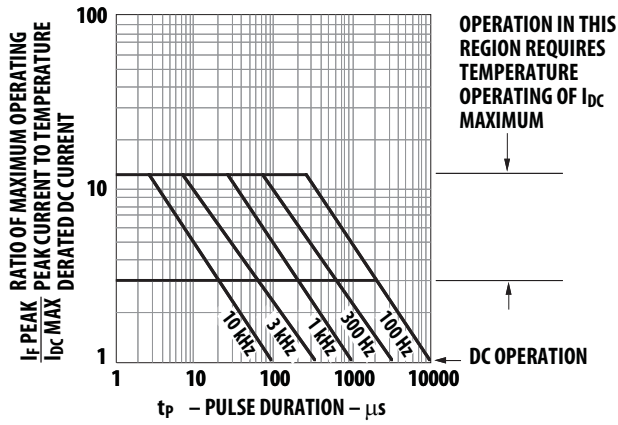

Figure 7. Maximum Tolerable Peak Current vs. Pulse Duration - Green.
7. See Figure 7 to establish pulsed conditions.